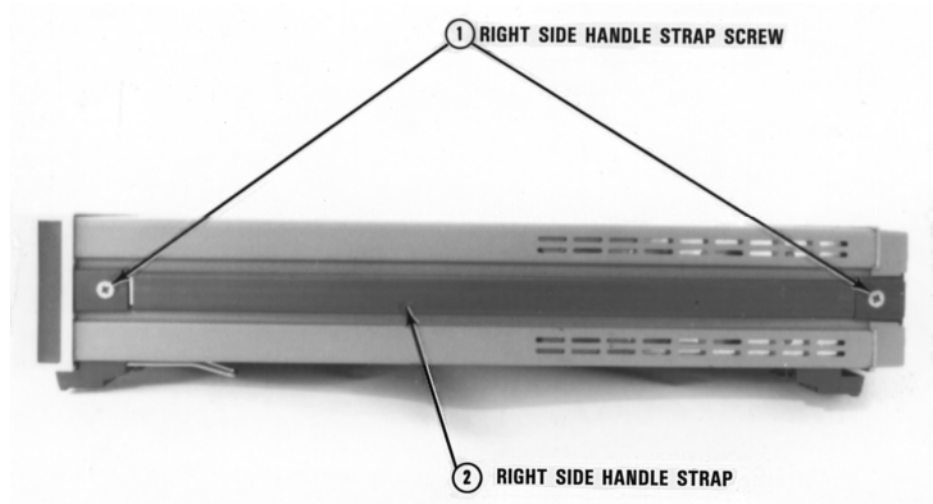

Figure 6. Right Side Handle Removal/Installation
3. Refer to Figure 6. Turn the instrument so its right side (as seen from the front) faces you.
18. Refer to Figure 6. Turn the instrument so its right side faces you.